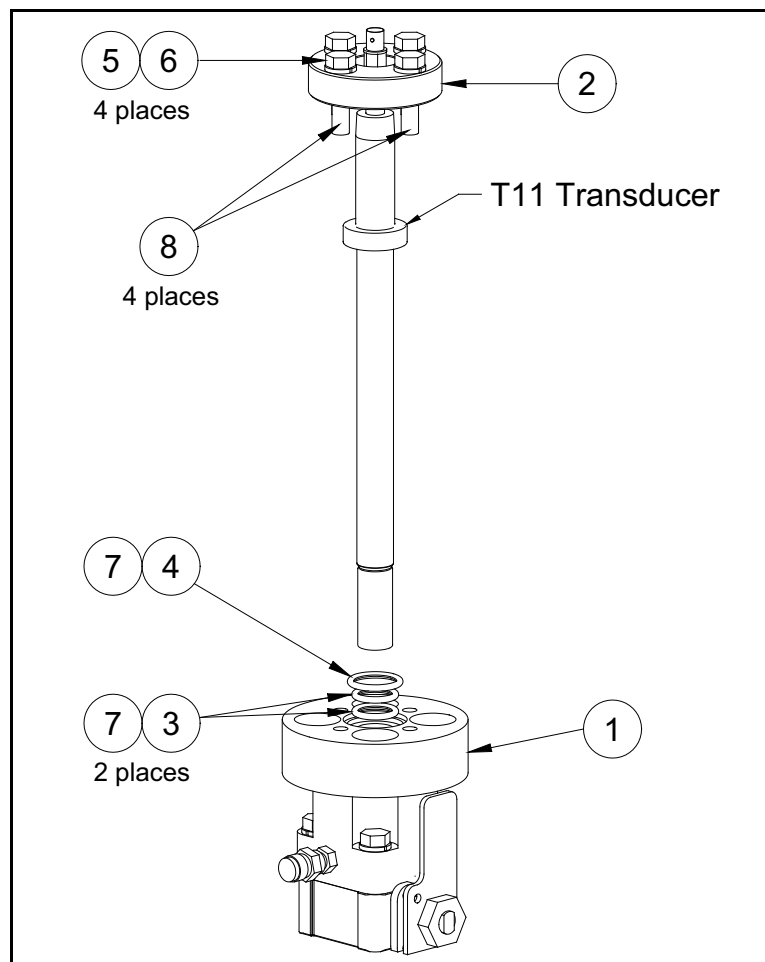

Figure 85: T11 Installation Components for a Pressurized Pipe
See *Table 11* below and *Figure 85* below for the components required to install the new transducer.
*Component numbers correspond to item numbers in *Figure 85* below.